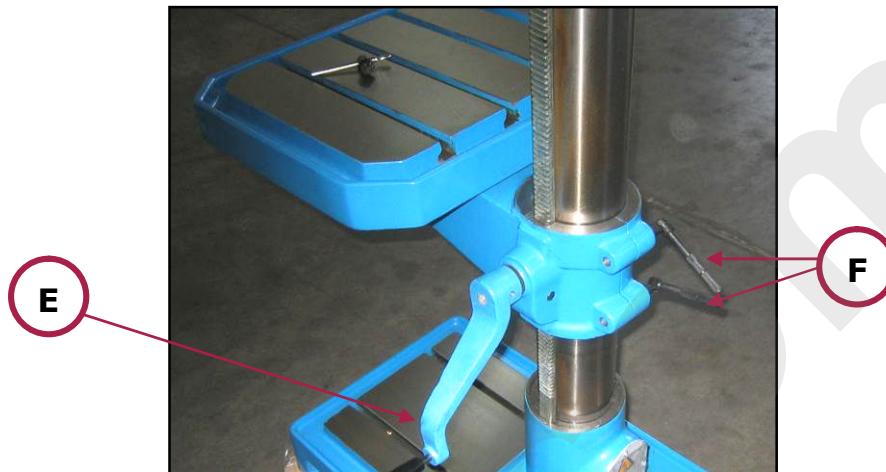

Figure 14 – Table height adjustment parts.
- a handle located on the right hand side of the table ("E" in figure 14);
- two locking screws located on the left hand side of the table ("E" in figure 14).